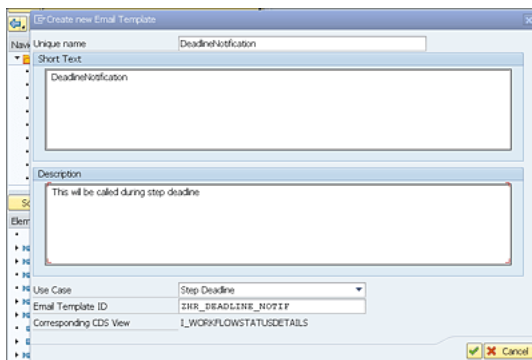

Figure 16.9 Deadline: Create New Email Template
2. The **Create new Email Template** popup will be displayed as shown in Figure 16.9. Enter a meaningful name in the **Unique name** area, select **Step Deadline** in the **Use Case** dropdown, and choose the email template that was created in the backend for deadline monitoring.